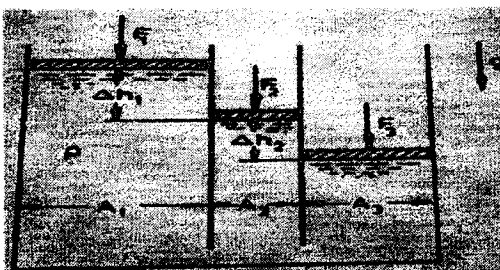

Figure 1
- II. (a) In three communicating vessels, pistons are exposed to the forces F_1, F_2, F_3 as shown in figure 1. (3)